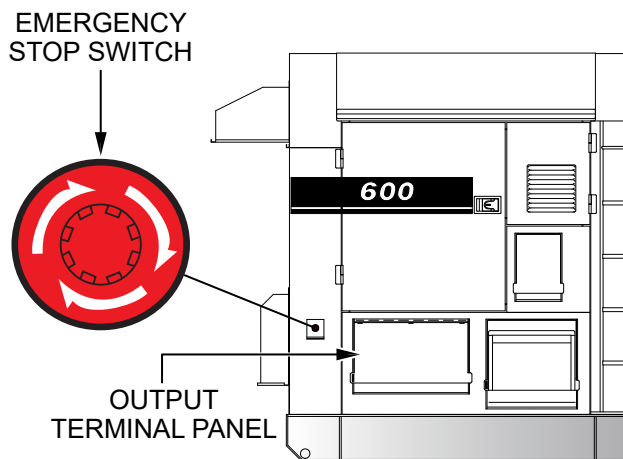

Figure 77. Emergency Stop Switch
1. To stop the engine in the event of an emergency, push the **Emergency Stop switch** (Figure 77). This switch is located on the side of the generator next to the output terminal panel.